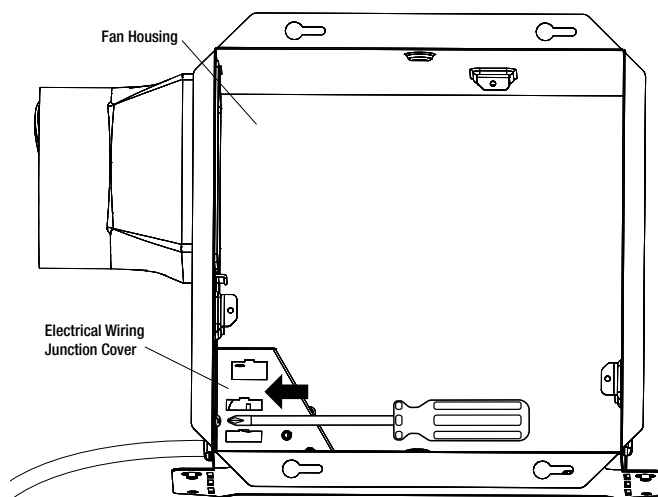

Fig. 11
- Reinstall the electrical wiring junction cover to the fan housing ensuring all wiring connections are fully enclosed. See figure 11.